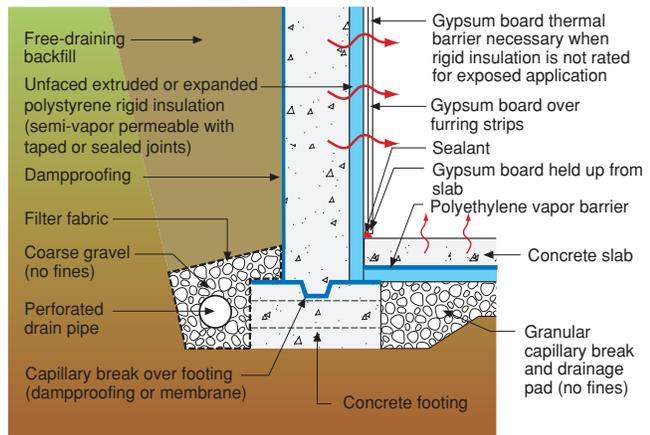

Figure 12
**Slab-on-Grade Construction** Capillary control also applies to slab-on-grade construction and crawlspaces (see **Figure 12**). Monolithic slabs need plastic ground covers that extend under the perimeter grade beam and upwards to grade. Additionally, the exposed portion of the slab edge that is exposed to the outside must be painted with latex paint to reduce water absorption and a capillary break must be installed under perimeter wall framing.